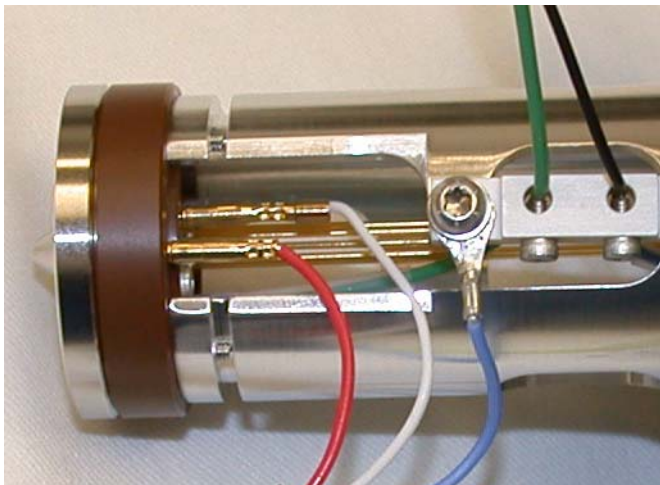

Figure 58 Lens 1 and Lens 2 wires
- 9 Disconnect wiring harness and connections (Figure 58). The lens 2 red wire and lens 1 white wire. Leave the yellow wires attached to skimmer spacer (Figure 59). Leave the ion optics in the skimmer spacer and use it as a stand to remove lens 2, spacer insulator, and lens 1. Be careful not to damage the octopole rods.